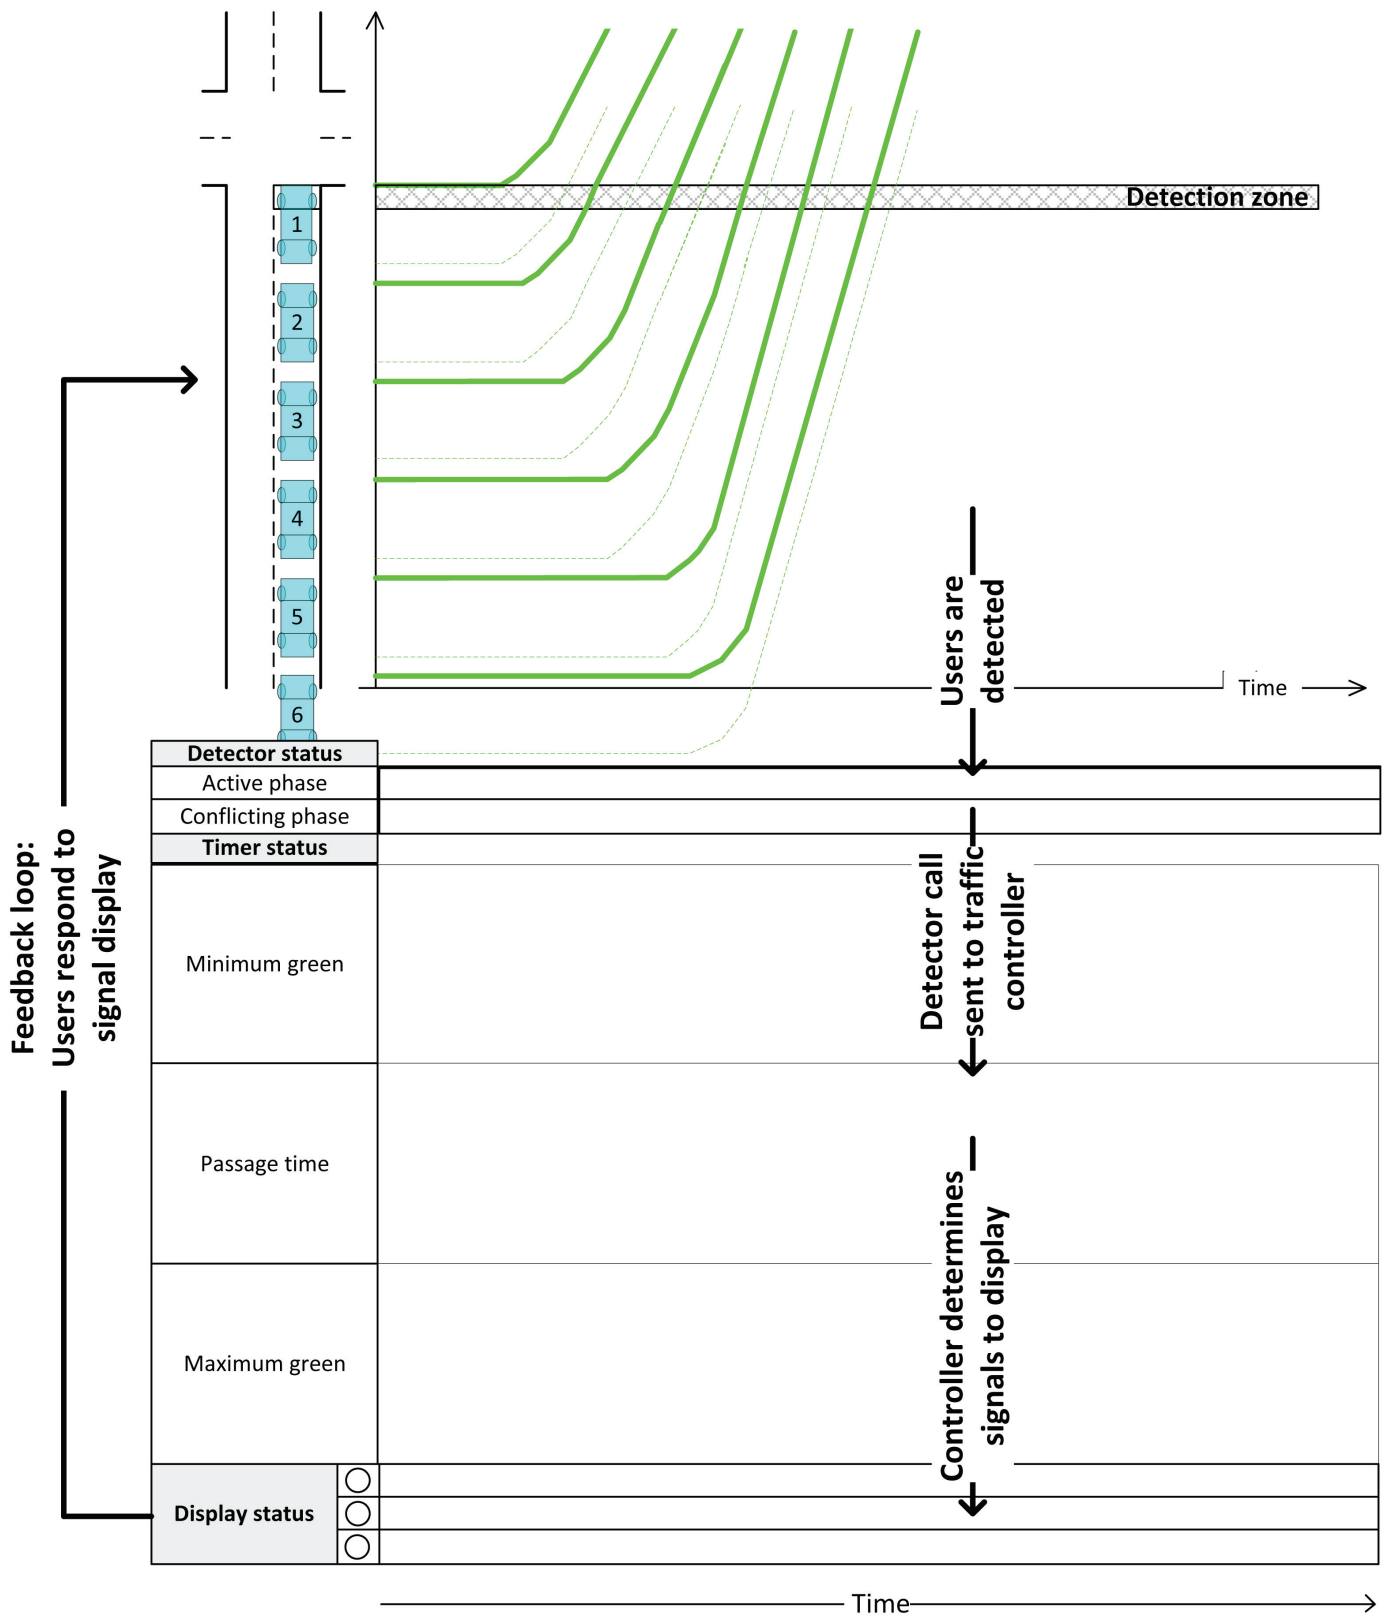

Figure 73. Traffic control process diagram
In Chapter 1, you were introduced to the traffic control process diagram. This diagram, which is represented in Figure 73, shows the four processes or components of the traffic control system and how they interrelate:
4. The user responds to the signal that is displayed, shown with the feedback loop on the left of Figure 73.